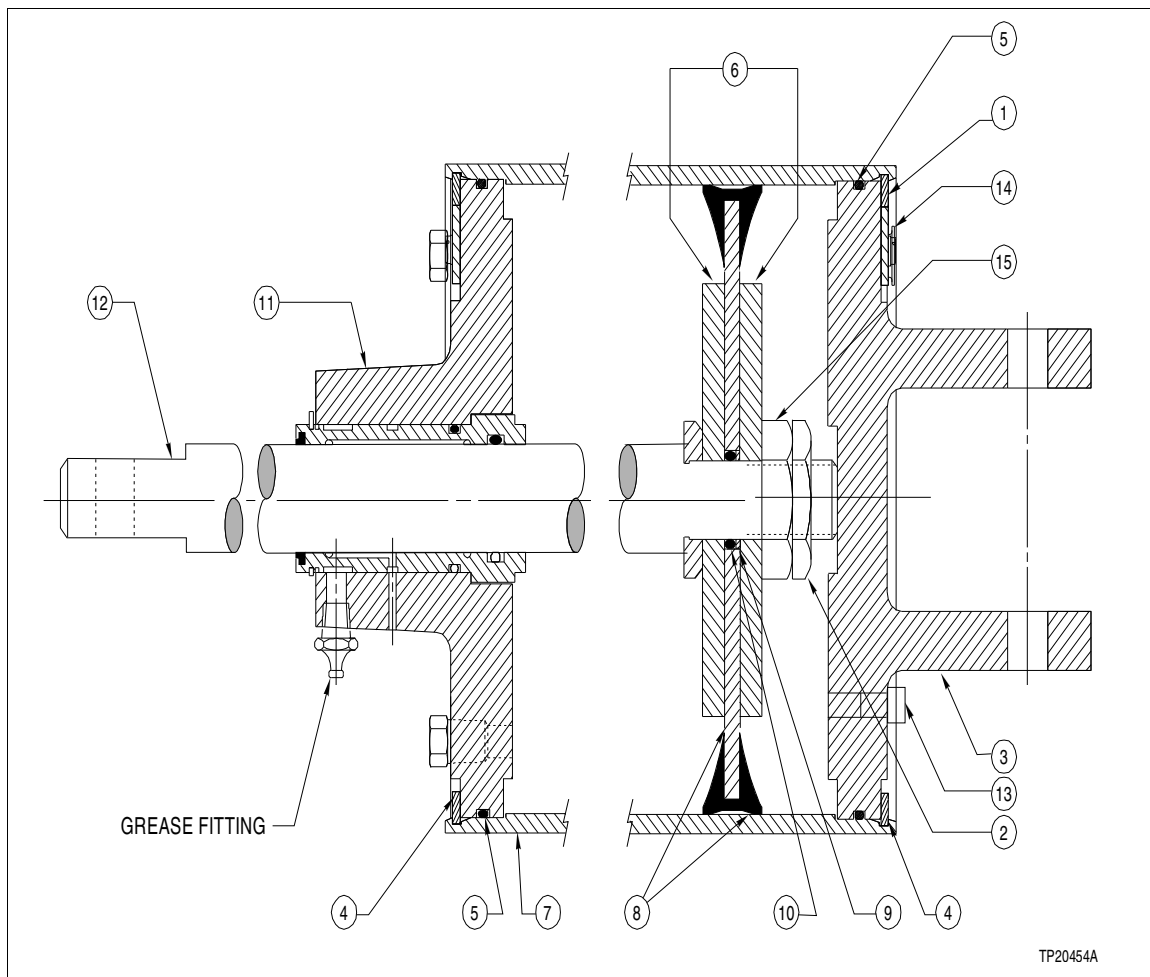

Figure 8-5. Cylinder Assembly for UP6
for UP6, items 5, 8, 10 in Fig. 8-5